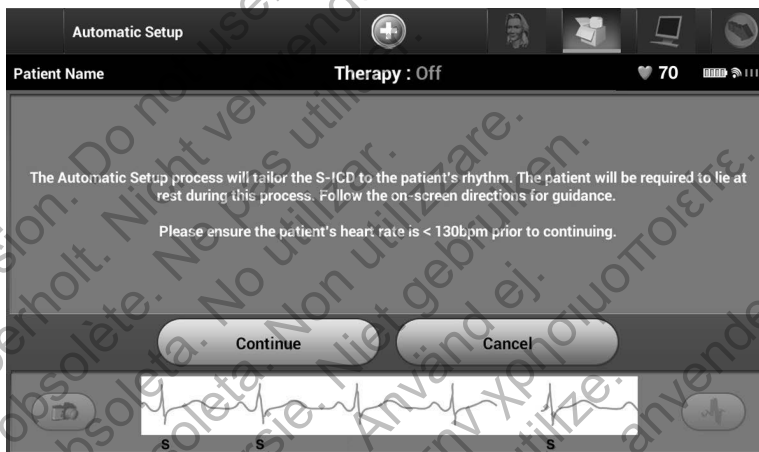

Figure 25: Automatic Setup screen
4. Select Continue if the patient's heart rate is less than 130 bpm (Figure 25). For rates greater than 130 bpm, select the Cancel button and refer to the Manual Setup section on page 76.